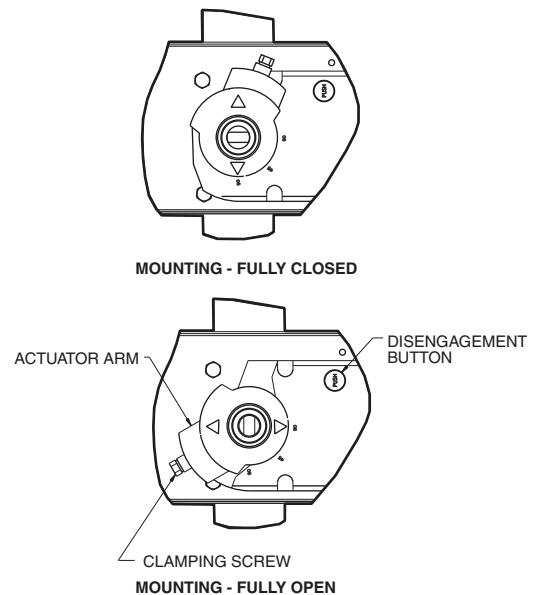

Fig. 65 — Ball Valve Motor
See Fig. 65 for a view of the ball valve motor mounting with a fully open valve. The motor actuator arm should be at a counter-clockwise position, with the valve shaft in a parallel position. If not in a parallel position, loosen the clamping screw and push the disengagement button to rotate the actuator arm until it stops. Retighten the clamping screw.
2. With the compressor off hold down the Disengagement (Push) button. See Fig. 65.